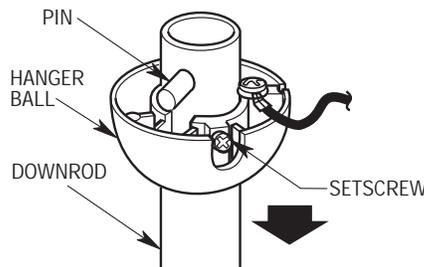

Figure 5
- 8. Remove the hanger ball by loosening the setscrew in the hanger ball until the ball falls freely down the downrod (Figure 5). Remove the pin from the downrod, then remove the hanger ball. Retain the pin and hanger ball for reinstallation in step 12.
It is critical that the clevis pin in the motor coupling is properly installed and the setscrews securely tightened. Failure to verify that the pin and setscrews are properly installed (as shown in Figure 5) could result in the fan falling.